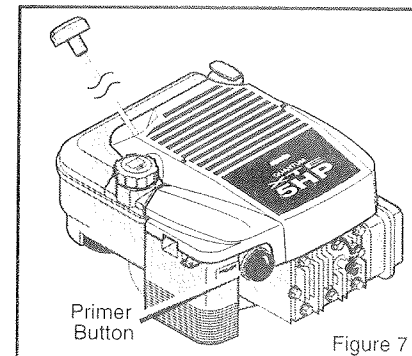

Figure 7
6. Some models have a **primer button** on the engine (Figure 7). Push the **primer button** five times. Every time you push the **primer button**, wait two seconds.